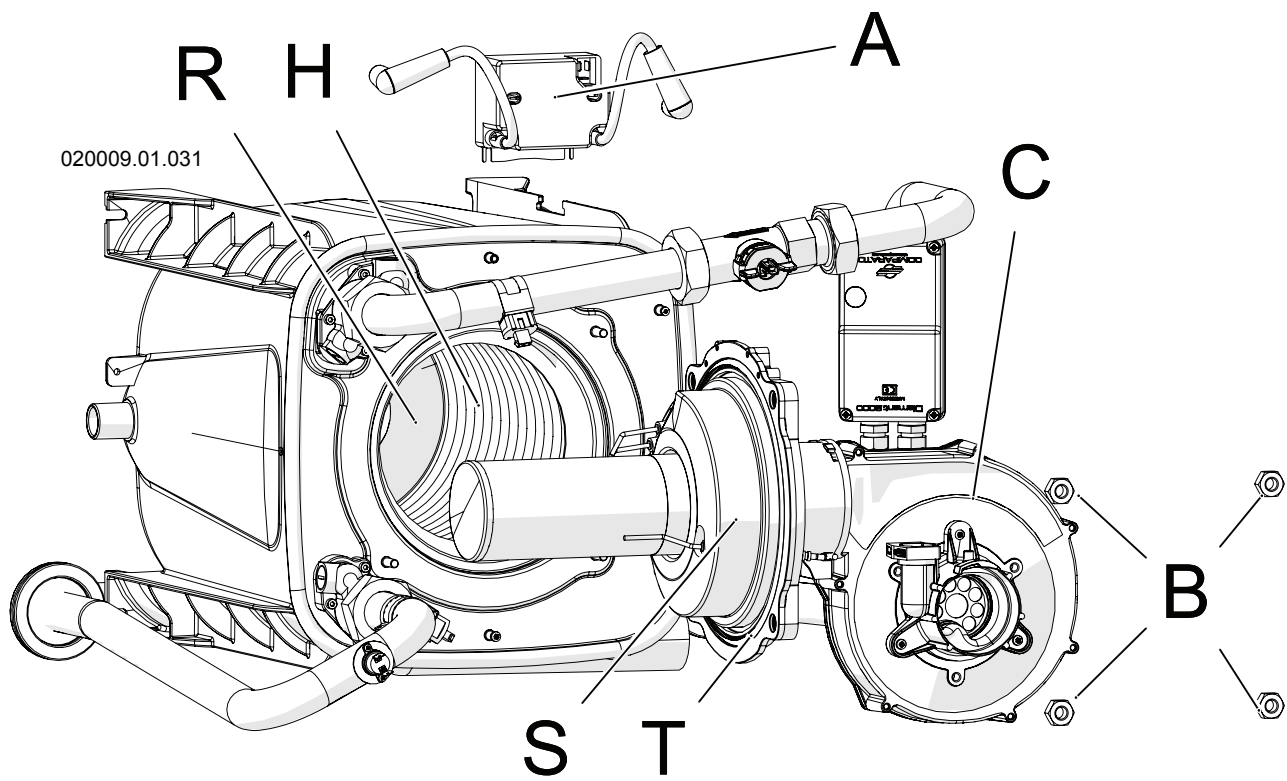

Figure 17-5 - Disassembling the burner fan unit
- 9.- Unscrew the four bolts "B" in figure 17-5;
- 10.- remove the fan/burner unit (part "C" in figure 17-5).
To properly clean the burner and the exchanger body (flue gas side), proceed as follows (refer to figure 17-5 when not otherwise specified):
ATTENTION !!! Every time you clean the burner and the main exchanger, you must first make sure heat insulators "R" and "S" are in good condition (see figure 17-5). If necessary, replace them along with burner gasket "T" (see figure 17-5), requesting the specific kit, code 62632006.